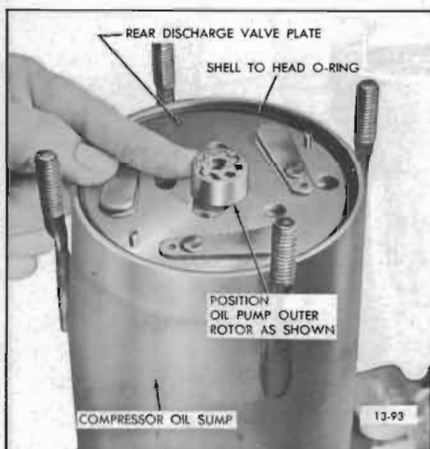

Figure 13-93—Positioning Oil Pump Outer Rotor
previously identified are in their original location, and then position oil pump outer rotor as shown in Figure 13-93.
5. Generously coat with No. 525 viscosity oil new shell to head "O" ring and install in shell (see Figure 13-93).